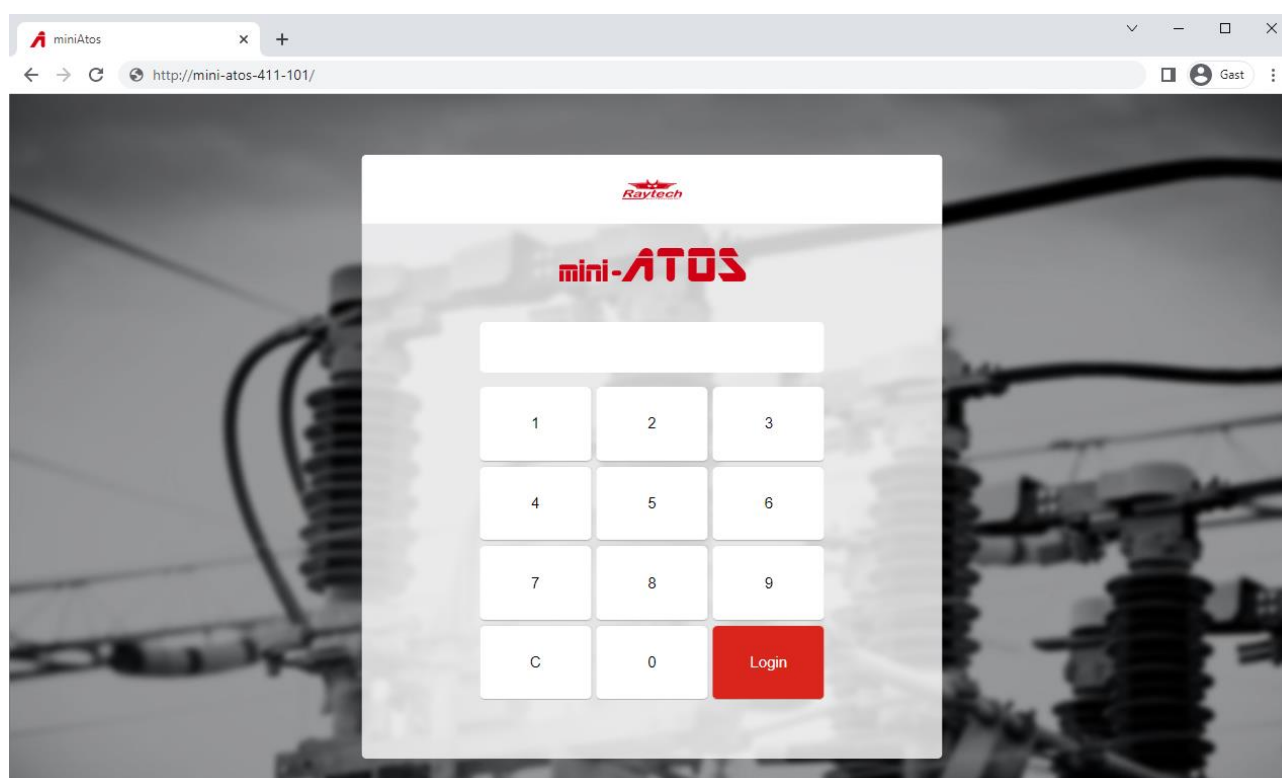

Figure 83: Remote access login page
- 6- Enter the access key and confirm to access the software (Figure 83)